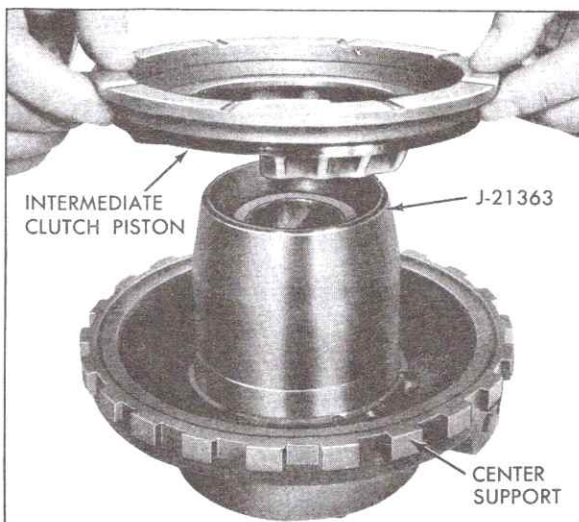

Fig. 7-75 Installing Intermediate Clutch Piston
2. Place Intermediate Clutch Inner Seal Protector, J-21363, over center support hub, Fig. 7-75, and install intermediate clutch piston.